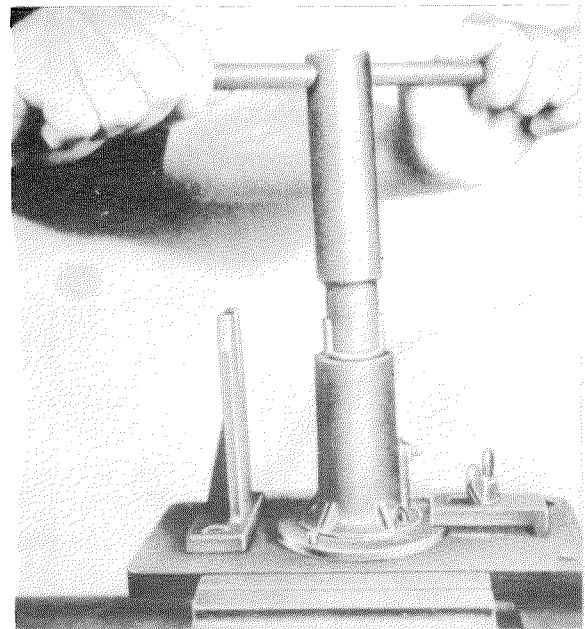

Figure 20-8/3
Wrench 136 589 11 07 and take it out of the pump housing (see Figure 20-8/3). Then remove the spacer (12), the sealing ring (10) and the sealing plate (Figure 20-8/4).
3. Press the water pump shaft 20 to 25 mm towards the impeller end, so that the shrunk-on ring (8) comes in contact with the annular ball bearing (6) (see Figure 20-8/4).